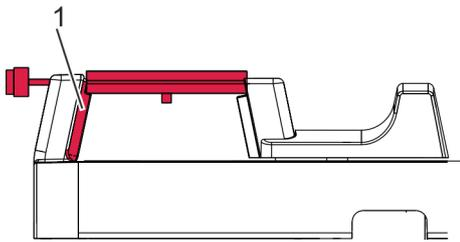

Fig. 14: Clockwork clamped without housing
2. ➤ Place the clockwork on the clamping area so that the plate is positioned above the signal sensor (Fig. 14/1).